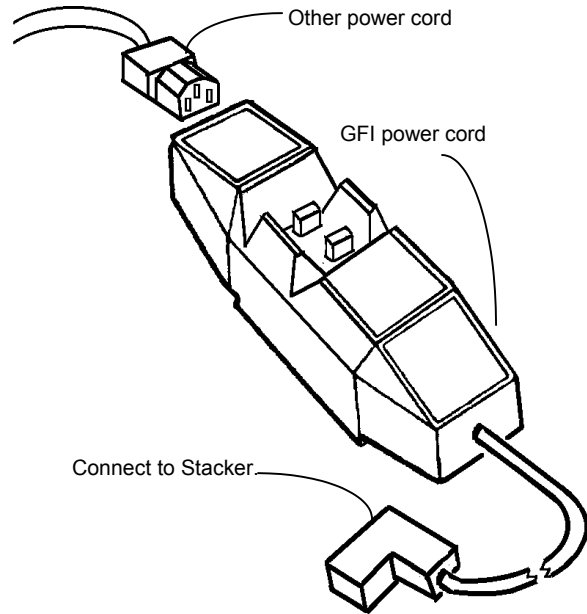

Figure 8. GFI
13. (Figure 8): Connect the GFI Power Cord to the Stacker. Connect the other power cord to the GFI Power Cord.
16. (Figure 8): Test the GFI to ensure it is working correctly.